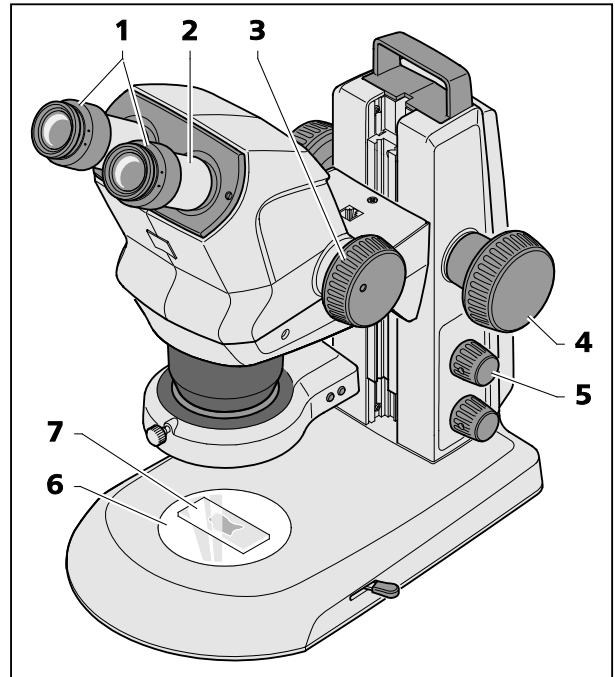

Fig. 13 Adjusting the stereo microscope
1. Place specimen (Fig. 13/7) centrally on the glass or plastic plate (Fig. 13/6) and illuminate it (Fig. 13/5).
2. Set diopter compensation on the adjustable eyepieces (Fig. 13/1) to "0".
3. Set individual eye distance by shifting the eyepiece tube laterally (Fig. 13/2), until only **one** complete light circle (specimen field) is visible when looking into the eyepieces with both eyes.
4. Initially, set the zoom (Fig. 13/3) to the smallest magnification.
5. Focus on a small distinct detail in the center of the specimen (Fig. 13/4).
6. Adjust maximum zoom value (Fig. 13/3). Magnification will probably make the distinct detail appear blurred and no longer in the image center.
7. Sharpen the specimen by focusing, then shift the specimen to re-search for the detail and focus "sharply" again (Fig. 13/4).
8. Afterwards, reset to the lowest zoom value and correct any image blurring for each eye separately by diopter compensation **on the adjustable eyepieces** (not on the focusing knob, Fig. 13/4) (compensation of visual defect).
- By pressing the knob (Fig. 13/5), the reflected-light illumination is switched ON or OFF (spot illuminator or double spot illuminator).